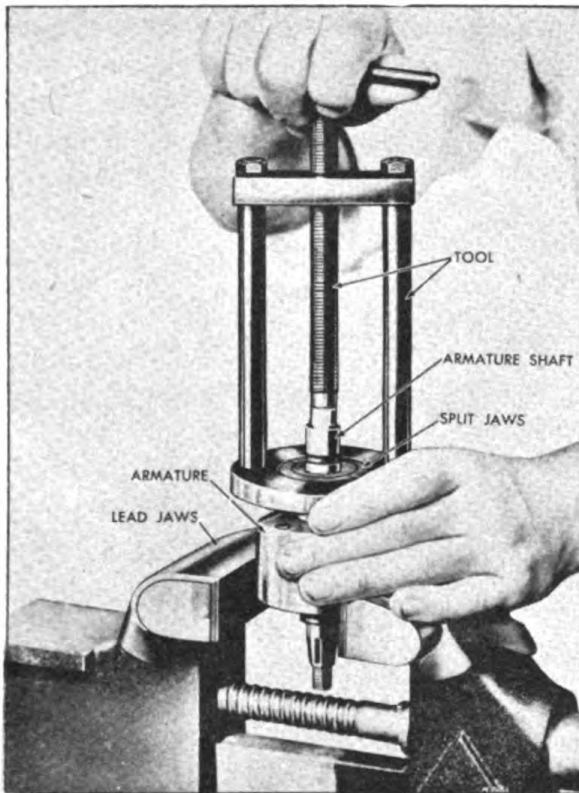

Figure 241. Removing Inner Race Rings.
G. Now remove the ball cages from both ends of magnet rotor and remove the ball bearing, inner race rings by using tool No. TSE-5265 with split jaws and tool No. TSE-76108. Figure 241.